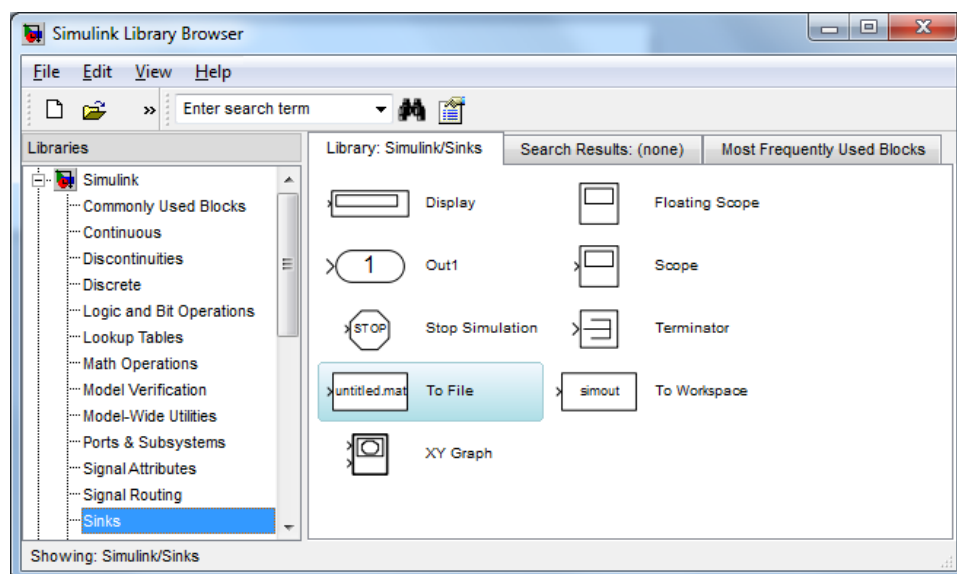

Figure 9: Location of the “To file” block in the Simulink library browser.
1. Use the “To file” block, see Figure 9.